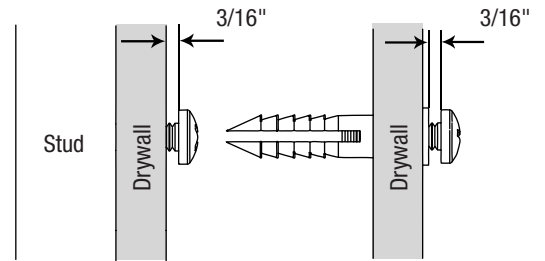

Figure 2
STEP 2: Pre-drill pilot holes with a 3/32" drill bit in the marked locations. If a stud is present, insert and fasten the screw leaving a 3/16" gap. If no stud is present, use a 3/16" drill bit to bore out the 3/32" hole, then insert the anchor and fasten the screw into the anchor leaving a 3/16" gap as shown in **Figure 2**.